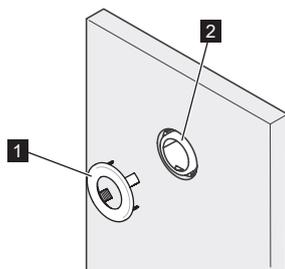

Fig. 11: Attaching cover clip
- Place the cover clip (Fig. 11/1) on the holder set (Fig. 11/2).